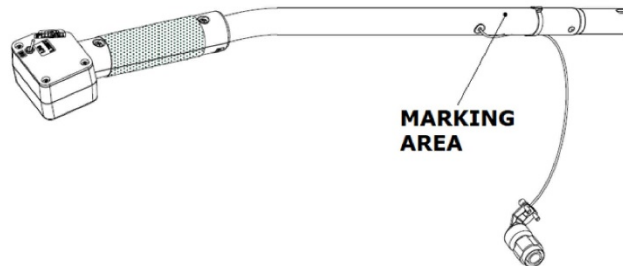

Figure 5 – Position of marking data
1. Refer to Figure 5. Get the marking data of the Collective stick and grip assembly P/N M207-20M478-043 or M207-20M478-047 in the location shown in Figure 5.
32. Mark the new P/N, WO number and apply quality stamp (as applicable) in the area shown in Figure 5. Use a white ink stamp or a permanent ink marker. Mark the following P/N: